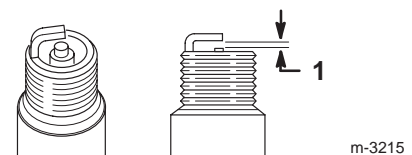

Figure 19
- Set the gap between the electrodes on the spark plug at 0.030 in. (0.76 mm) as shown in Figure 19.